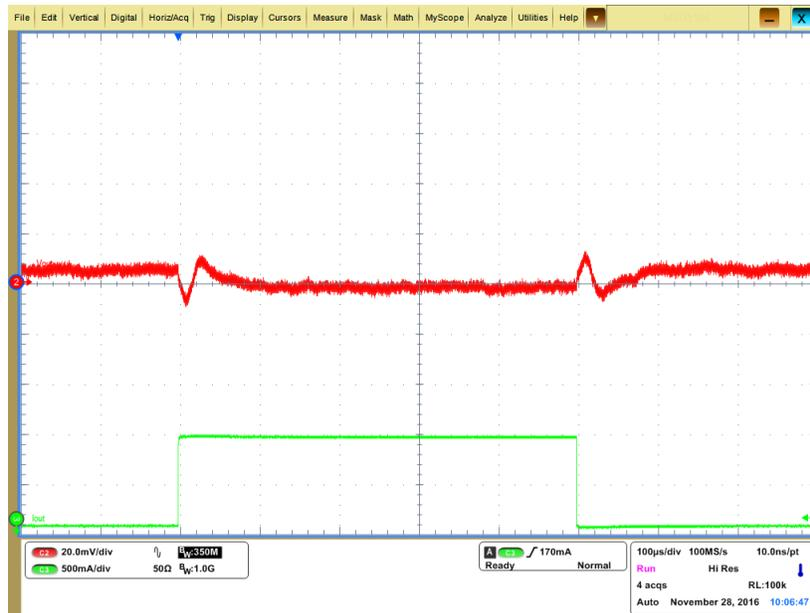

Figure 24. TPS51200-Q1 Test Plot
- load goes from 100 mA to 1 A and then returns to 100 mA (Figure 24)